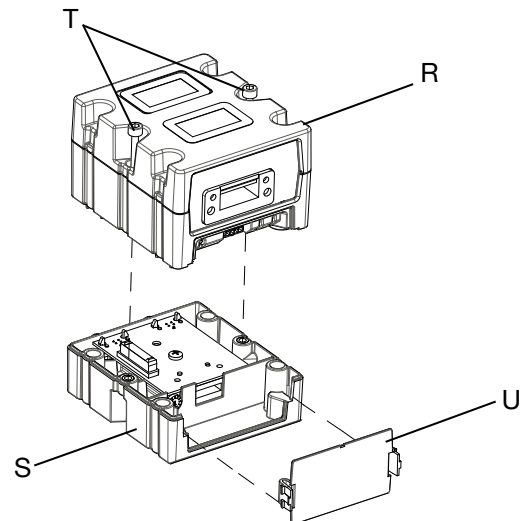

Fig. 24: Disassembling the CGM
5. Remove the access cover from the CGM (U). Loosen the two screws (T) and remove the CGM (R) from the base (S) as shown in **Fig. 24**.